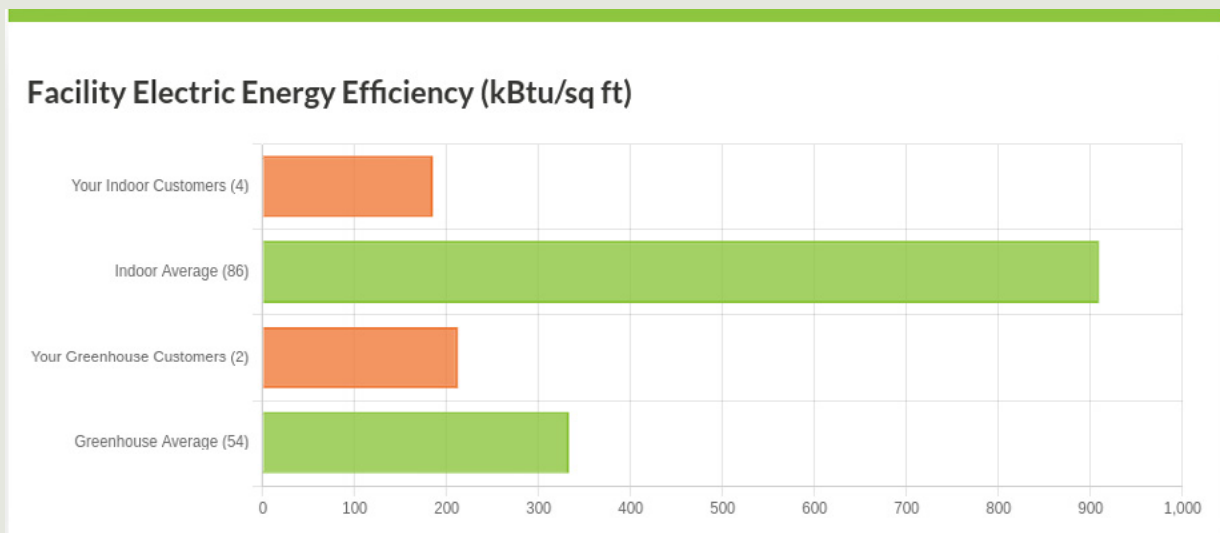

Figure 4: Example PowerScore Report Comparing CEA Program Portfolio to a Crop-Specific Ranked Data Set
- Use PowerScore for pre-and post-project benchmarking and compare your portfolio of projects to the Ranked Data Set. **Figure 4** at left demonstrates a portfolio of facilities in orange compared against a crop-specific Ranked Data Set in green for the Facility Electric Energy Efficiency key performance indicator.